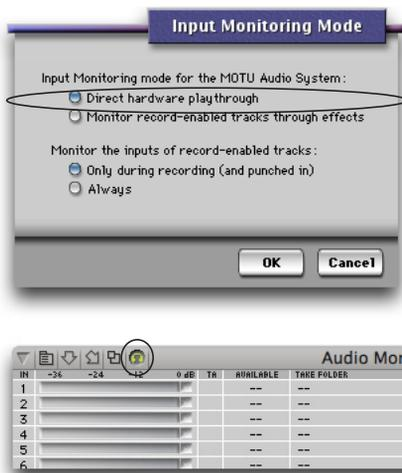

Figure 10-7: Enabling CueMix DSP in AudioDesk or Digital Performer.
- 2 Choose the *Direct hardware playthrough* option, as shown below in Figure 10-7.